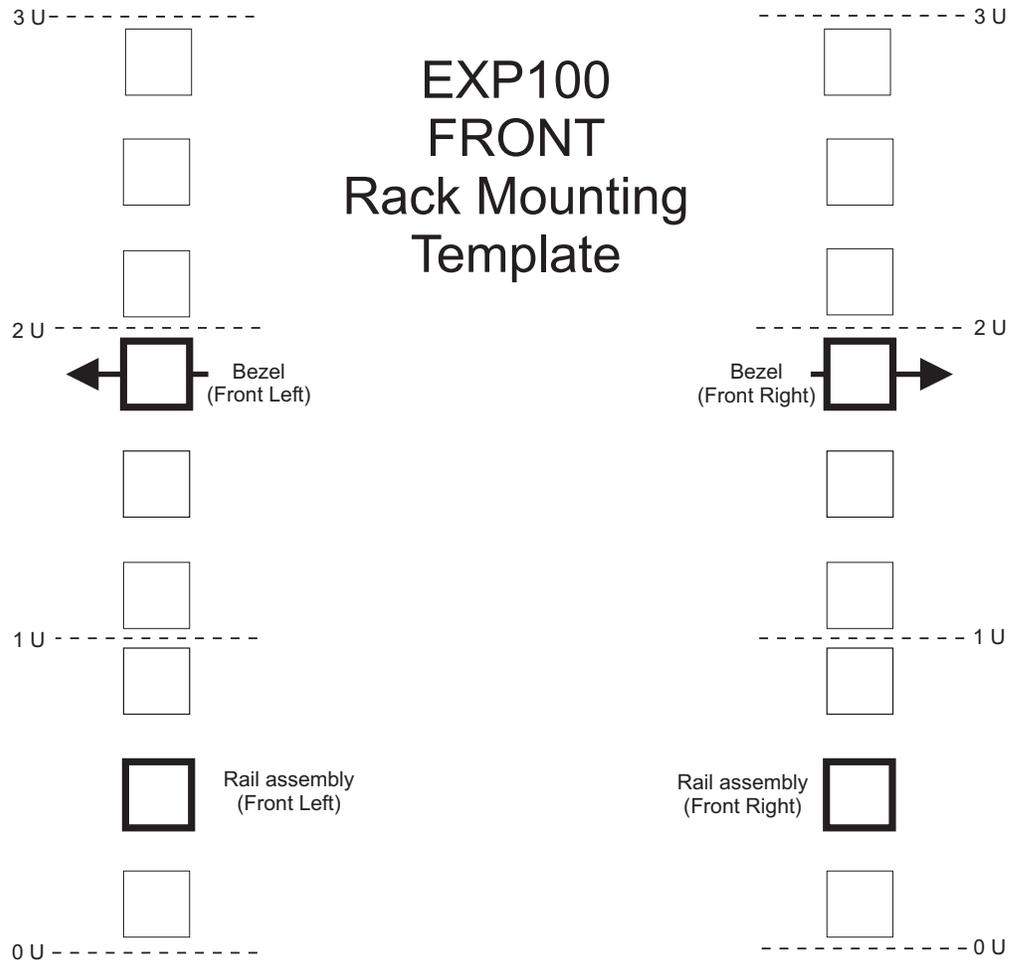
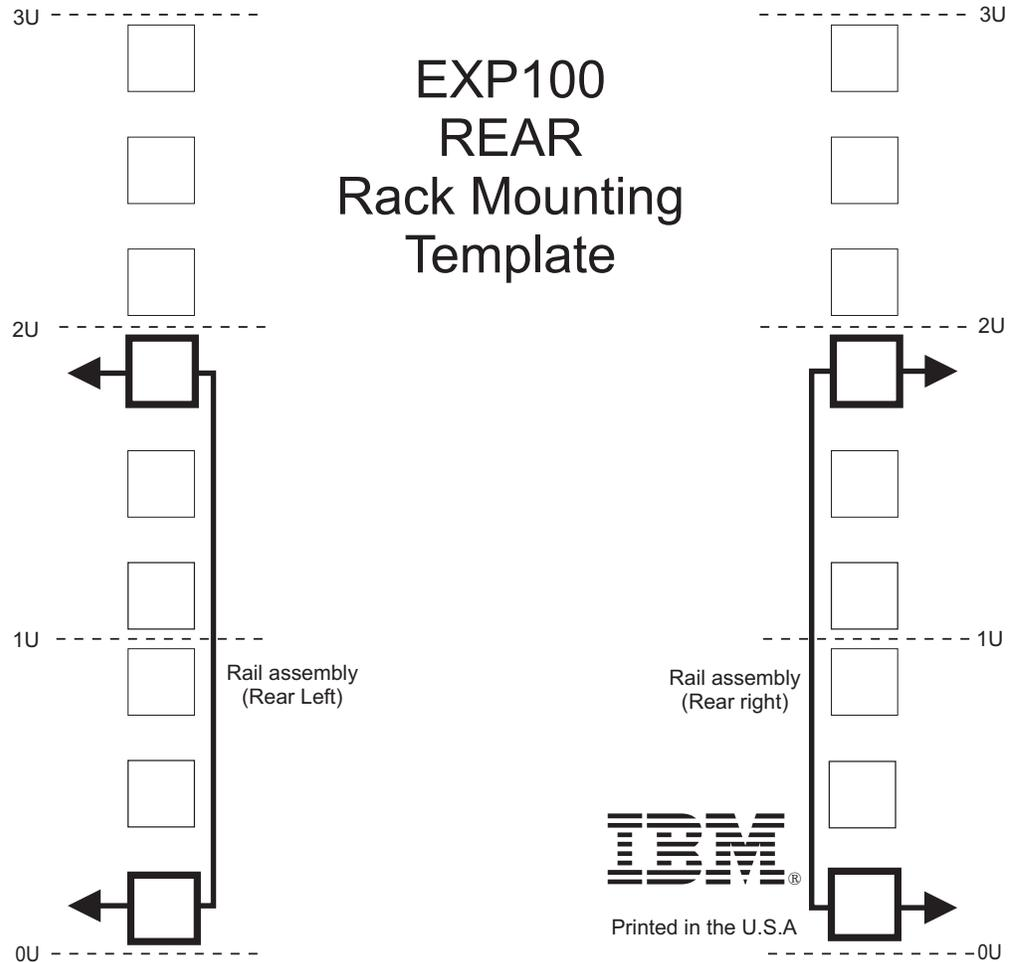

Figure 9. Front rack mounting template
Figure 10. Rear rack mounting template
Use the following templates (Figure 9 on page 23 and Figure 10 on page 24) to identify the proper locations for inserting M6 screws when mounting the support rails and EXP100 to a rack. The locations for the M6 screws are highlighted in the templates.
Attention: Use the rack mounting template provided in Figure 9 on page 23 and Figure 10 on page 24 to locate the proper rack mounting holes for installing the support rails into the rack.
6. Hold the front of the rail against the inside of the right rack-mounting flange and loosely tighten the lower M6 screw (**4**). See Figure 9 on page 23 for the location for this screw.
8. From the rear of the rack, thread and tighten two M6 screws (**1**) (see Figure 10 on page 24 for the location for these screws). From the front of the rack, finish tightening the front M6 screw (**4**).